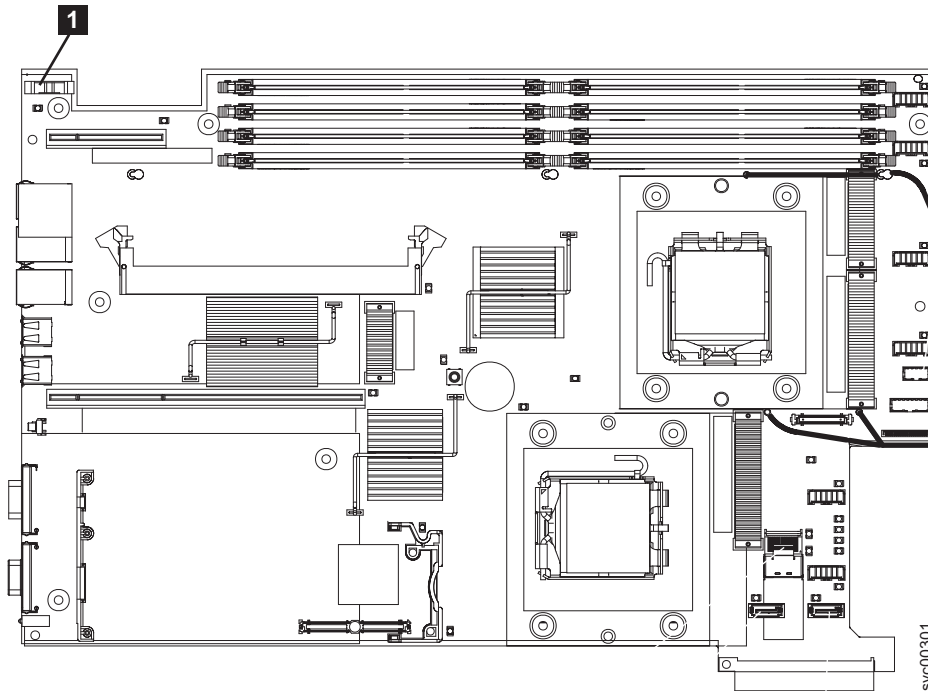

Figure 144. Location of the SAN Volume Controller 2145-8G4 CMOS battery holder
2. Locate the battery on the system board. Figure 144 on page 153 shows the location (1) of the battery.